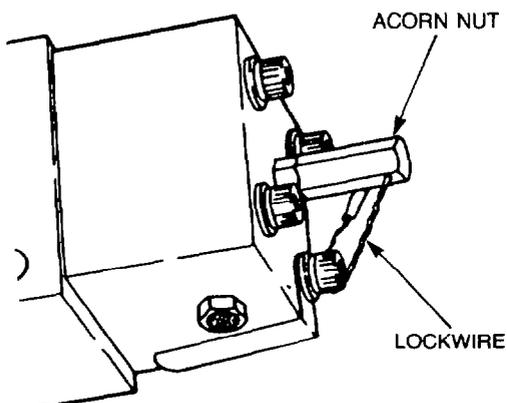

Figure 137 — Lockwire and Acorn Nut
- i. If the upper shift point is incorrect, remove the lockwire and the acorn nut (see Fig. 137) from the valve adjusting screw, then loosen the adjusting screw lock nut.